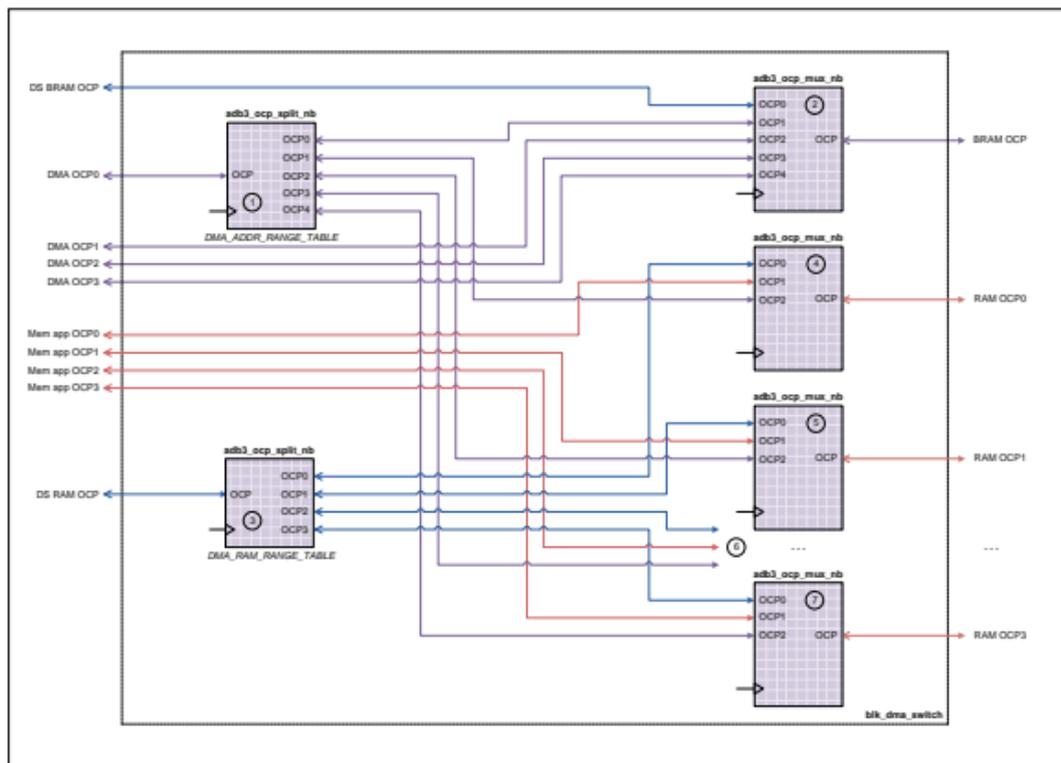

Figure 20: Uber OCP Switching Block
This block is implemented by `hdl/vhdl/examples/uber/common/blk_dma_switch.vhd` and its purpose is to connect together the various OCP channels in the **Uber** design in a useful way. A block diagram of the OCP switching block is shown in Figure 20.
Referring to item 1 in Figure 20, this instance of `adb3_ocp_split_nb` splits the Direct Slave on-board memory OCP channel into multiple secondary OCP channels, according to the address map in Table 81 below.
Referring to item 2 in Figure 20, this instance of `adb3_ocp_mux_nb` multiplexes all OCP channels which require to be connected to the **BRAM block**:
Referring to item 3 in Figure 20, this instance of `adb3_ocp_split_nb` splits DMA OCP channel 0 into multiple secondary OCP channels according to the address map in Table 82.
Items 4, 5, 6 and 7 in Figure 20 are instances of `adb3_ocp_mux_nb` whose purpose is to enable multiple OCP channels to access the the on-board memory banks: